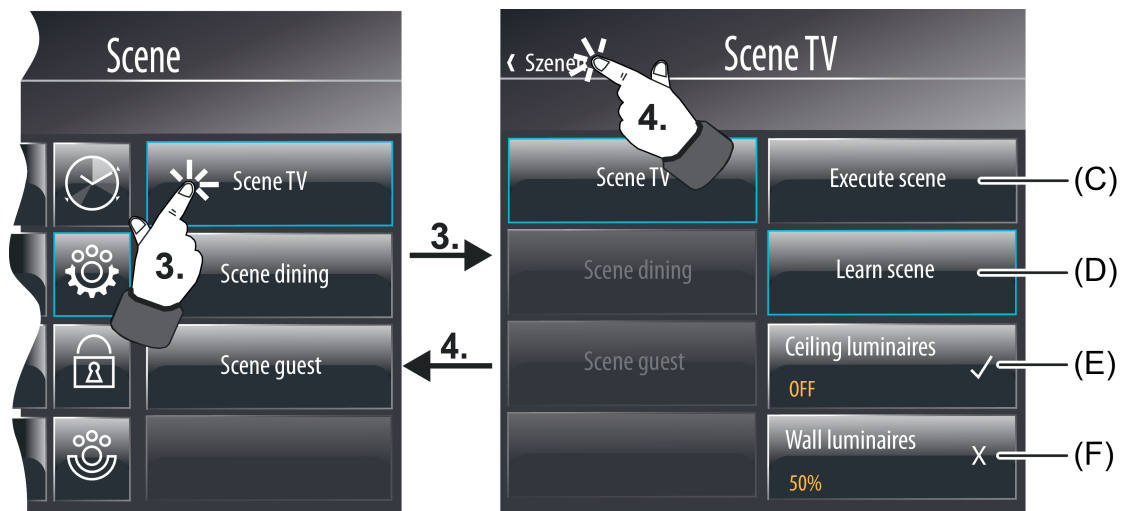

Figure 81: Example of a scene with scene submenu (right)
If you touch the sensor surface of an adaptable scene with your finger (3), the device branches to the submenu of the scene submenu (figure 81). Two control surfaces are displayed there for recalling the scene (C) and for executing the save function (D). Furthermore, all of the scene functions assigned to the scene are displayed in list form (E+F). If more than 2 functions are allocated, the list can be switched by the sensor surfaces  / . Active scene functions are indicated by the "  " symbol (E). Inactive scene functions are indicated by the "  " symbol (F).